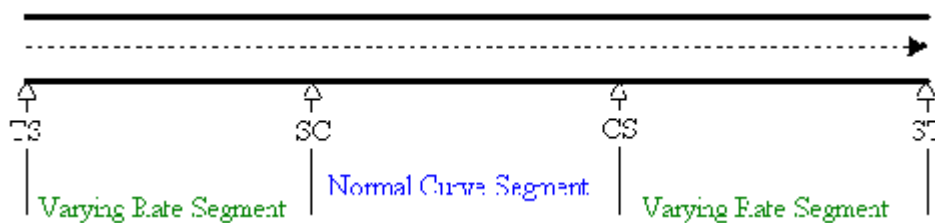

Figure 13-2. Route curves at a varying rate between TS and SC, at a constant rate between SC and CS, then at a varying rate between CS and ST.
- ◆ **A three-point spiral curve** consists of a normal curve with only one varying rate segment at either end (see Figure 13-2 below):